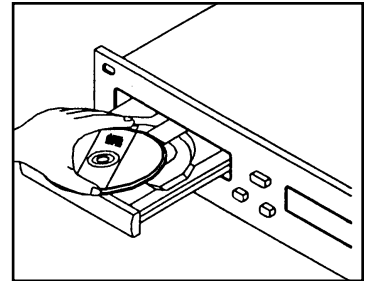
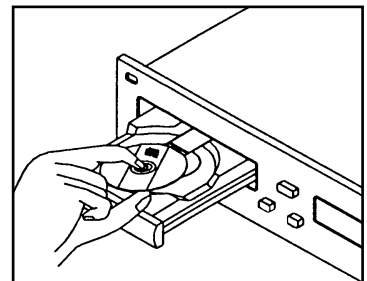

Fig. 10
Fig. 11
- Press the **OPEN/CLOSE BUTTON (2)** to open or close the disc tray. **OPEN/CLOSE BUTTONS (2)** are provided on both the main unit and control unit or, Press **PLAY BUTTON (25)**, tray automatically closes.
- The disc trays cannot be opened during playback to prevent playback from being interrupted if the **OPEN/CLOSE BUTTON (2)** is pressed accidentally. Stop playback, then press the **OPEN/CLOSE BUTTON (2)**.
- When using 5 inch/12 cm discs, place the disc in the outer tray guides (Fig. 10), and when using 3 inch/8 cm discs, place them securely in the inner guides (Fig.11).